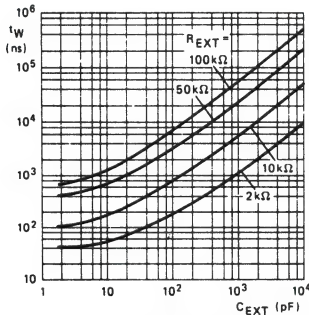

Fig. 7 Typical output pulse width as a function of the external capacitor values at V_{CC} =5.0V and T_{amb} =25°C.
- For other R_{EXT} and C_{EXT} combinations see Fig. 7